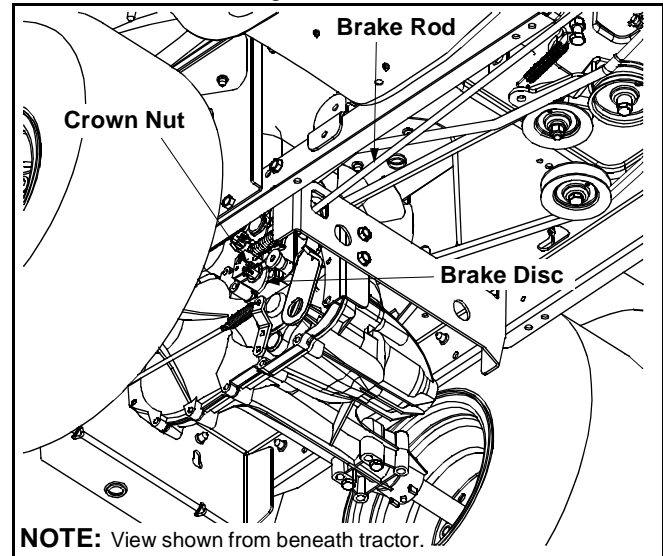

Figure 16
- Looking at the transmission from the right side of the tractor, locate the compression spring and brake disc. See Figure 16.